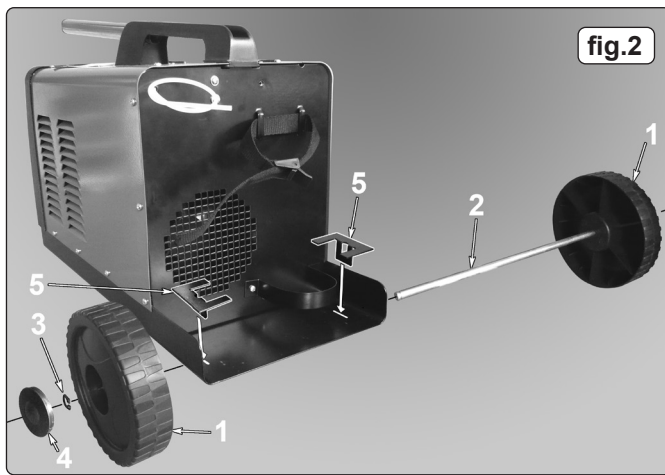

fig.2
- 4.1.3. **WHEELS.** Referring to fig.2, attach a wheel (1) to axle (2) using a circlip (3) and insert a hub cap (4) into the centre of the wheel.